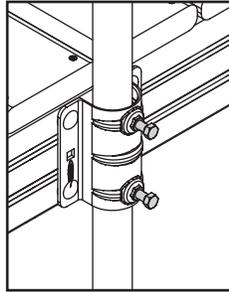

Figure 2
Note: *If using 1 7/8" pipe, install (2) Back Plates PS 1017 behind each Pipe Sleeve in order to provide clearance necessary to adjust pipe inside sleeve. (Figure 2)*
Tighten pipe with $\frac{3}{8}$ " x 1" hex bolt and $\frac{3}{8}$ " flange nut as shown. (Figure 2)